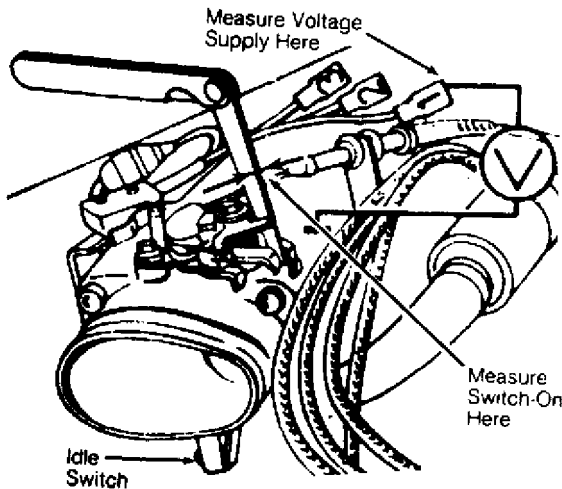

Fig. 6: Checking Idle Switch Adjustment
1) Check idle and adjust if needed. Idle air by-pass screw is located in throttle valve. Adjusting screw changes amount of air by-passing throttle plate, raising or lowering idle speed. See Fig. 6.